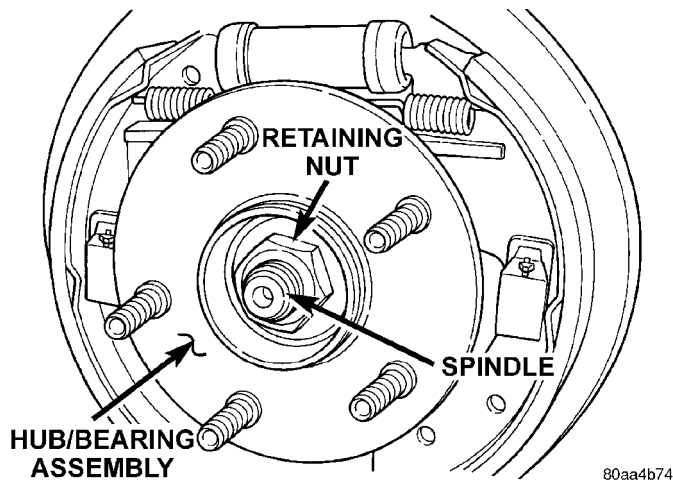

Fig. 14 Hub/ Bearing Retaining Nut
(6) Remove rear hub/bearing retaining nut (Fig. 14). Then remove the hub/bearing from the knuckle.
(9) Install rear hub and bearing assembly on knuckle. Install hub and bearing assembly retaining nut (Fig. 14), and torque to 217 N·m (160 ft. lbs.).
(10) If vehicle is equipped with rear disc brakes, install rear braking disc on hub. If vehicle is equipped with rear drum brakes, install the brake drum on hub.
(11) If vehicle is equipped with rear disc brakes, install rear braking disc on hub. Carefully install rear brake caliper over braking disc and install on adapter. Tighten the caliper assembly to adapter mounting bolts to 22 N·m (192 in. lbs.). Refer to Rear Disc Brakes in Group 5 Brakes in this service manual for required caliper installation procedure.
(12) Install wheel and tire assembly on vehicle. Tighten the wheel mounting stud nuts in proper sequence until all nuts are torqued to half specification. Then repeat the tightening sequence to the full specified torque of 135 N·m (100 ft. lbs.).
(13) Lower vehicle.
(14) With suspension supporting total weight of vehicle, and lateral links at correct curb height, torque both lateral link attaching bolts to 95 N·m (70 ft. lbs.).
(15) Check and reset rear wheel TOE to specifications if required. Refer to Front And Rear Toe Setting Procedure in the Wheel Alignment Check And